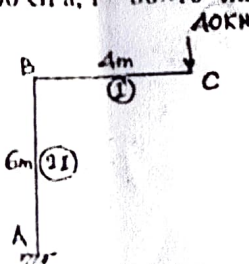

Fig.Q7(b)
b. Determine the vertical deflection at C of a bent frame shown in the Fig.Q7(b). Use Castigliano's approach. Take  $E = 200 \text{ GPa}$ ,  $I = 80 \times 10^7 \text{ mm}^4$ .